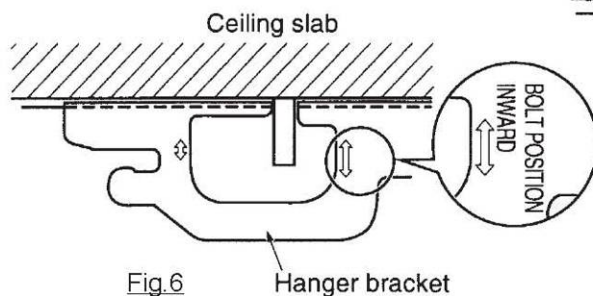

Fig.6
- ☆ Make sure that extended suspension bolt from the ceiling stays inside the arrowed position. Readjust the hanger bracket when it is outside the arrowed position. (Refer to Fig.6)